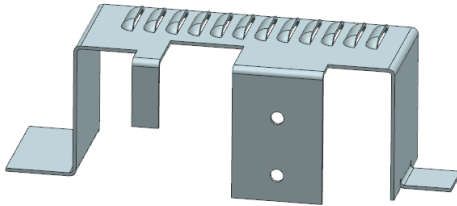

Figure 14-121 Two holes created on the first flange
6. Accept the other default settings and choose the **OK** button from the dialog box; two holes are created on the first flange, as shown in Figure 14-121.